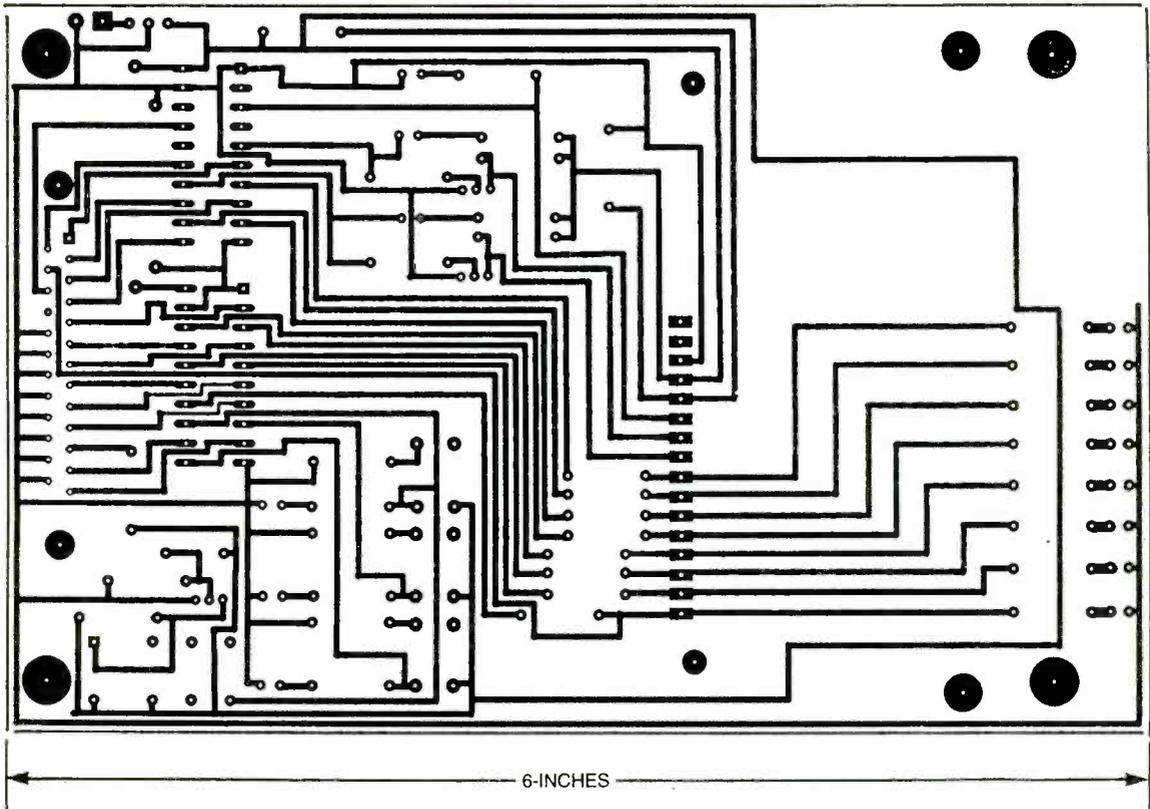
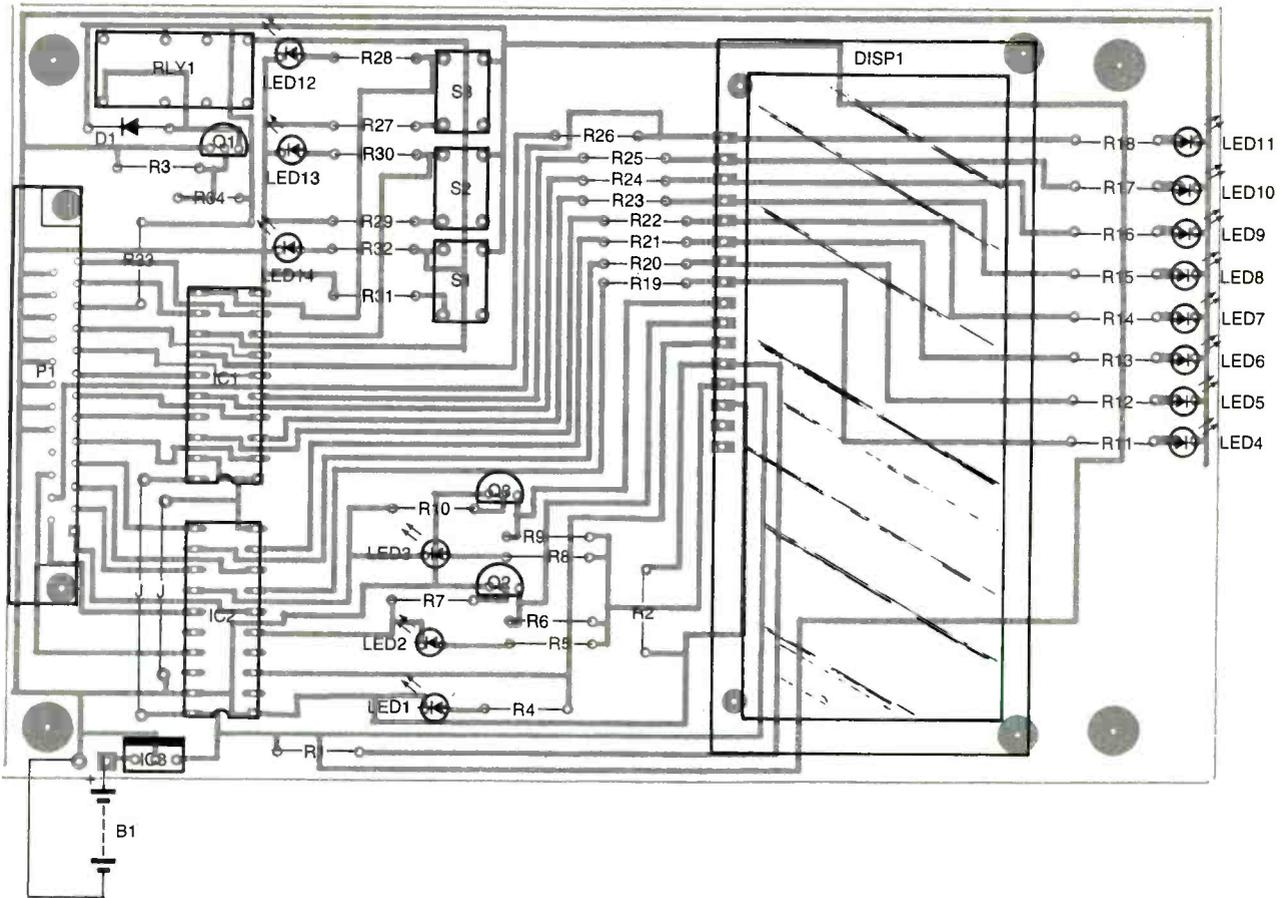

Fig. 2. The LCD interface fits on a single-sided PC board, as this foil pattern shows.
Fig. 3. When building the LCD interface, don't forget the two jumper wires in the corner.
**Construction.** The LCD interface circuit is simple enough to be built on a piece of perfboard using standard construction techniques. If you'd like to use a printed-circuit board instead, a foil pattern for a single-sided board has been included here; see Fig. 2. Alternatively, a PC board is available as part of the complete kit described in the Parts List.
If you use a PC board from either the Parts List source or the Fig. 2 foil pattern, use the parts-placement diagram shown in Fig. 3 as a guide to positioning the components. It's a good idea to use IC sockets to avoid any possible overheating during soldering. You also should not install DISP1, IC1, or IC2 until told to do so. Once you have installed all the other parts, check your work carefully for any construction errors such as wrong parts, parts installed backwards, missing components, and poor or missing solder joints. Don't forget the two jumper wires!